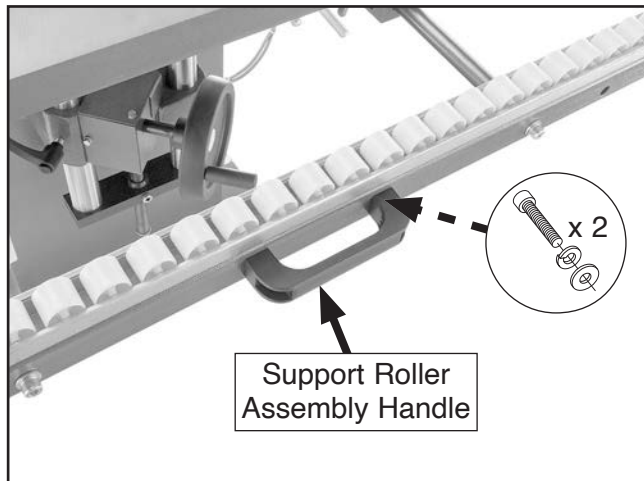

Figure 17. Support roller assembly handle installed.
3. Install support roller assembly handle at location shown in **Figure 17** with pre-installed cap screws, flat washers, and lock washers.